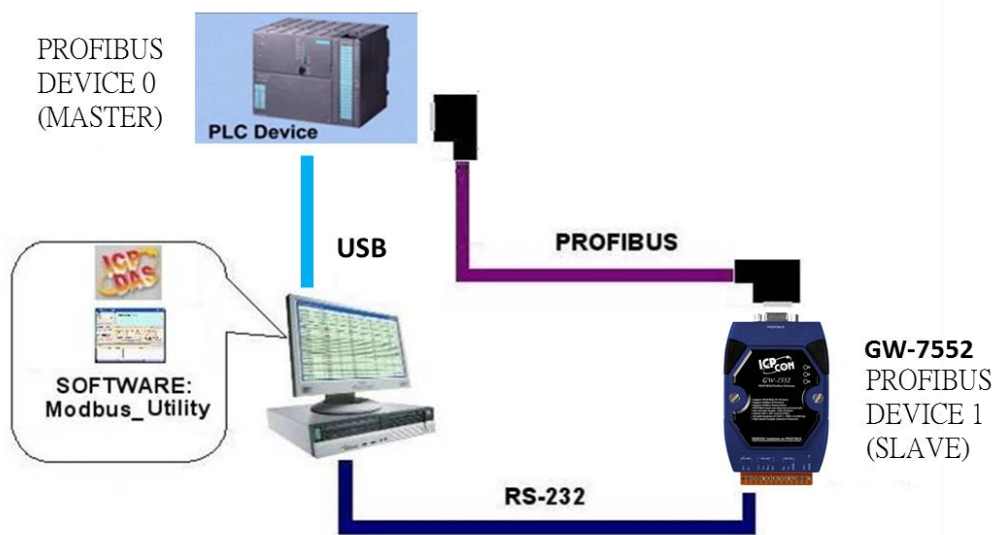

Figure 37 Wiring diagram between PC and GW-7552-B
- Step 2: Connect the RS-232 port of the GW-7552-B module to a COM port of the PC and the Profibus port to a Profibus master (*Figure 37*).